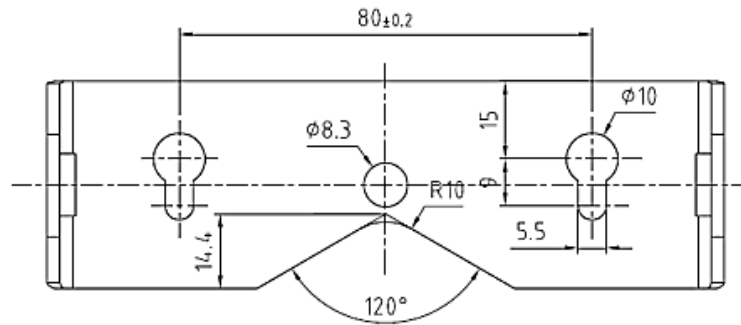

Figure 2-7: Hole Pattern Template for Mounting Brackets
6. Mark the position of the bracket mounting holes on the surface to which the terminal will be mounted using the dimensions shown in Figure 2-7, or by holding the terminal up to the surface and marking through the bracket holes.